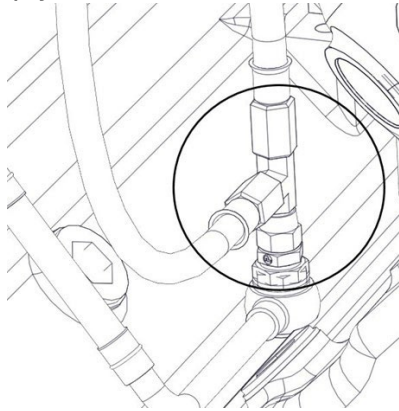

Figure 20. Turbocharger Oil Supply Lines
1. Remove both turbo oil supply lines from the oil inlet valve. (Refer to Figure 20.)